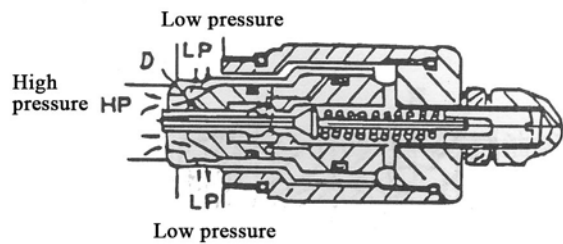

Fig 7.9
- (4) Comparing with cylinder joint HP, the internal pressure becomes unbalanced, which leads to the relief valve core D opened, so that, the oil in the high pressure side will directly flow in low pressure way LP (see Fig 7.9).